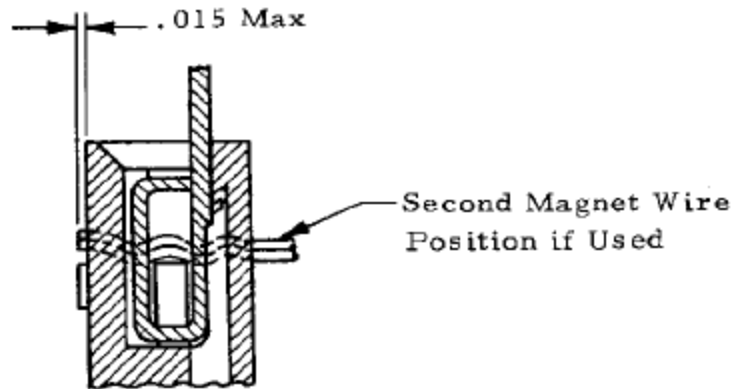

Figure 7
1. Magnet wire shall contact the top of the cavity anvil as indicated in Figure 7 when terminal is inserted into cavity design option 1 (see Figure 2).